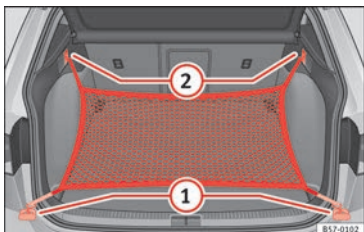

Fig. 159 In the luggage compartment: rings ① and hooks ② for attaching the net bag.
- Secure the short net hooks to the fastening rings »» Fig. 159 ① »» ⚠. The bag zip should be facing upwards.
- Secure the straps in the bag hooks ②.